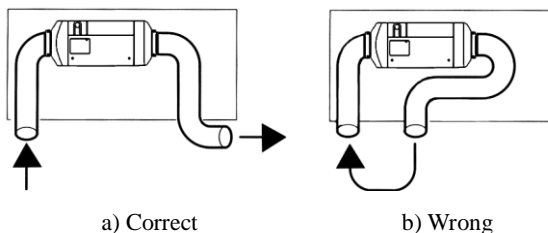

Fig. 12
4.3.6 For heater working in internal circulation, measures shall be taken to avoid re-entering of the supplied hot air into the air inlet port (as shown in Fig. 12). The inlet air shall be drawn from the cold area of the compartment, such as under the seats or berths. If no air inlet pipe is attached in this mode, an air inlet hood with grids (Fig. 4-6) must be installed at the air inlet port of the main heater.